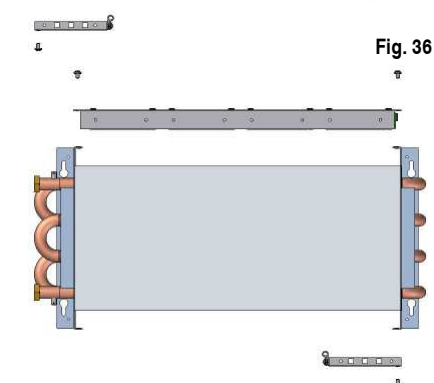

Fig. 36
3. Turn the heat exchanger around by 180° and position again the HE KIT and the ambient sensor in the same position, as is shown in figs. 36